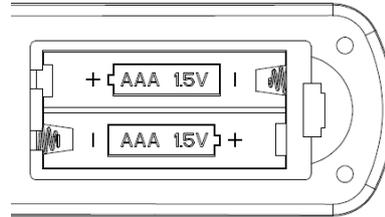

Fig. 11
- 2 x AAA 1.5V (size) batteries are required to operate the remote control. Remove the battery cover from the back of the remote and insert 2 x AAA batteries. Ensure the polarities are correct as shown in the battery compartment. (Fig.11)